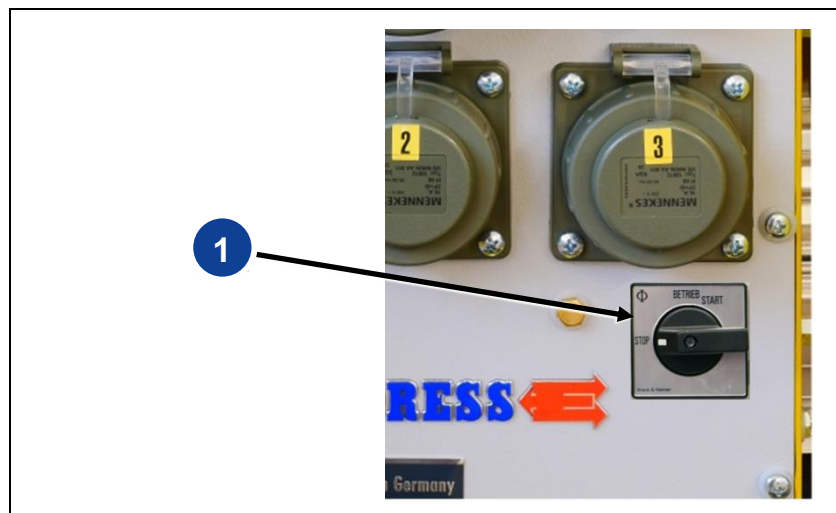

Fig. 4-3: Electrical start
4. Place the engine start switch (Fig. 4-3-**1**) in Pos. "START".